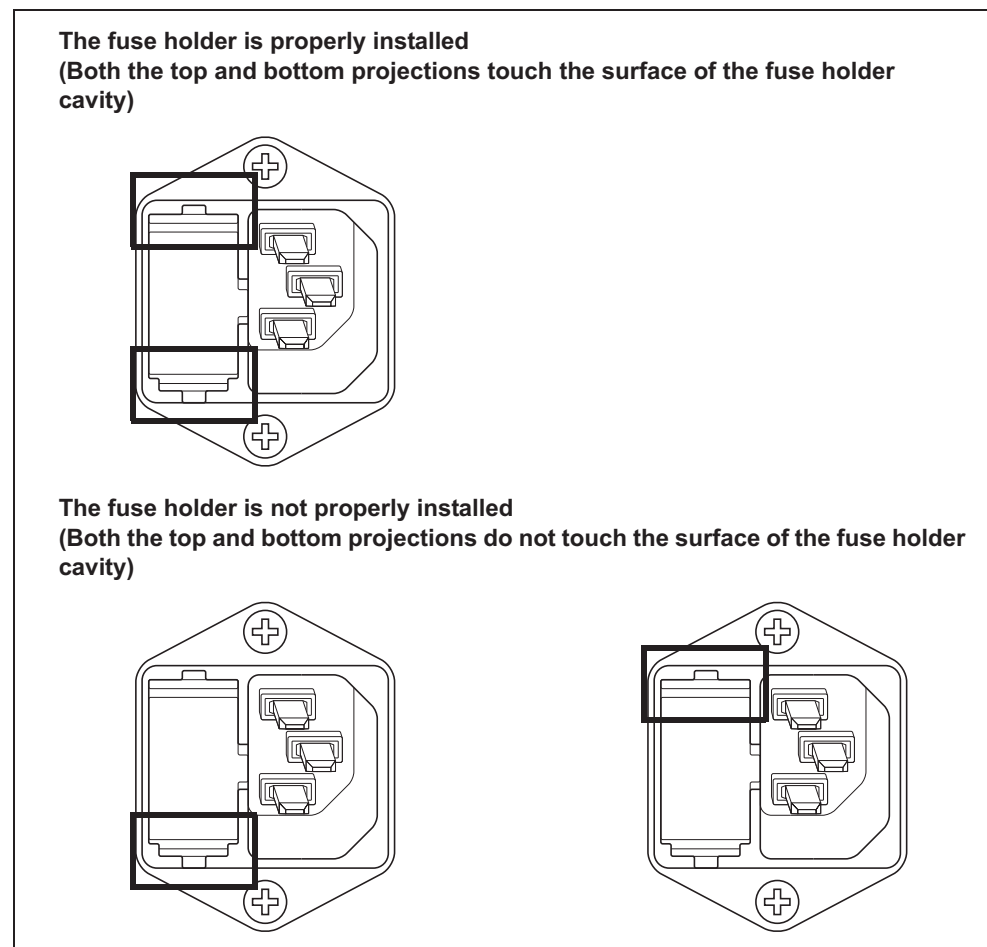

Figure 4.21
- 6** Insert the fuse holder into the equipment until it clicks. Confirm that the fuse holder is properly installed, referring to Figure 4.21.